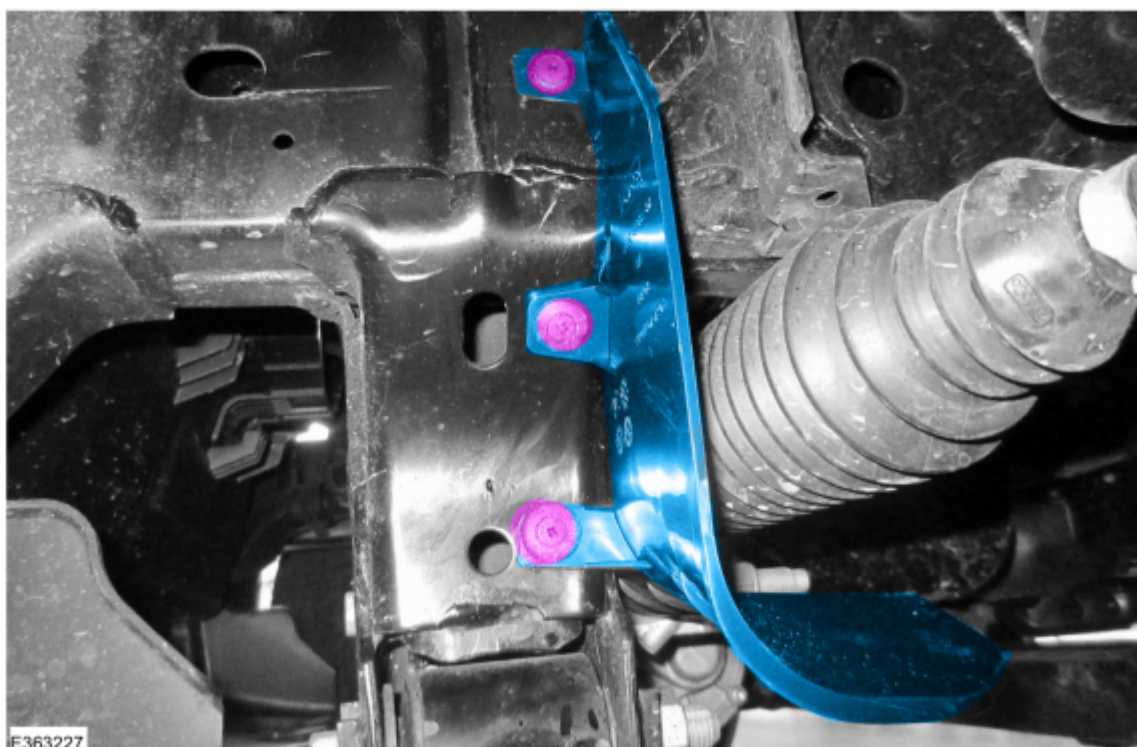

Figure 10
**12.** Install the steering gear boot shield with the 3 scrivenets. (Figure 10)